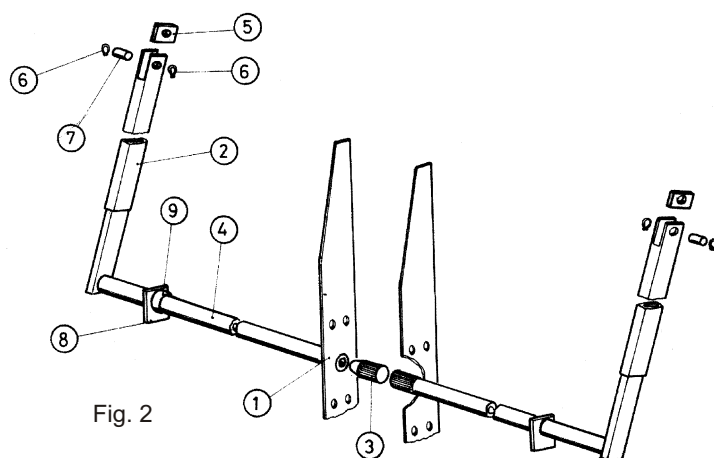

Fig. 2
The unit must be installed using the fixing accessories provided, with reference to Fig. 2.
- 5) Install the telescopic arms, adjusting their length to the balance arms of the door. Weld the telescopic arm bracket (No 4 - Fig. 2) to the door frame, making sure that sufficient travel is allowed on the telescopic arm (25 - 35 cm minimum).
- 6) Insert the differential shafts in the shaft of the operator, adjusting their length to the width of the door; fit the bearing (No 6 - Fig. 2) and the stop ring.
- the differential shafts and bearings (No 6 - Fig. 2) must be positioned at least 5 cm under the door hinge;
- the bracket (No 4 - Fig. 2) must be attached to the door frame in line with the top hinge of the door or as near as possible.
- the bracket (No 4 - Fig. 2) must be fitted beside the top track or as close as possible to the junction of vertical and horizontal tracks.
- the bracket (No 4 - Fig. 2) must be either fitted on the balance arm or the door frame, anyway close to the top hinge of the balance arm;